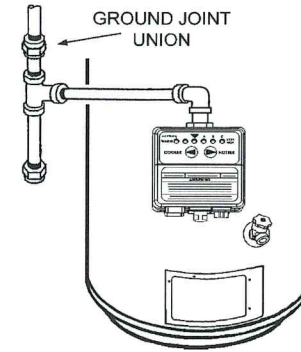

FIGURE 5.
7. Disconnect the gas supply piping to the water heater preferably at the ground joint union (if installed), see Figure 5.
8. Disconnect all the piping from the Intelli-vent™ Thermostat Control, (183760 Series), see Figure 5.